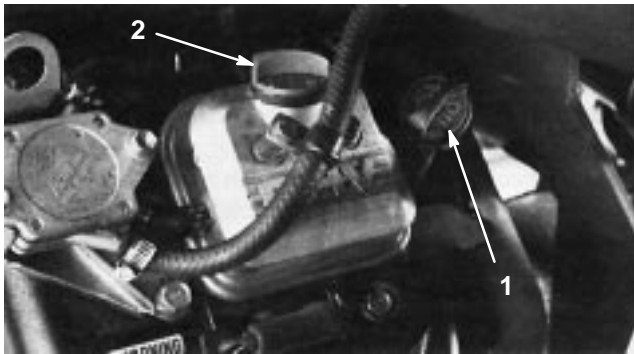

Figure 12
2. Unscrew the dipstick and wipe it with a clean rag. Screw the dipstick into the tube and make sure it is seated fully (Fig. 12). Unscrew the dipstick out of the tube and check the oil level. If the oil level is low, remove the filler cap from the valve cover and add enough oil to raise the level to the Full mark on the dipstick.